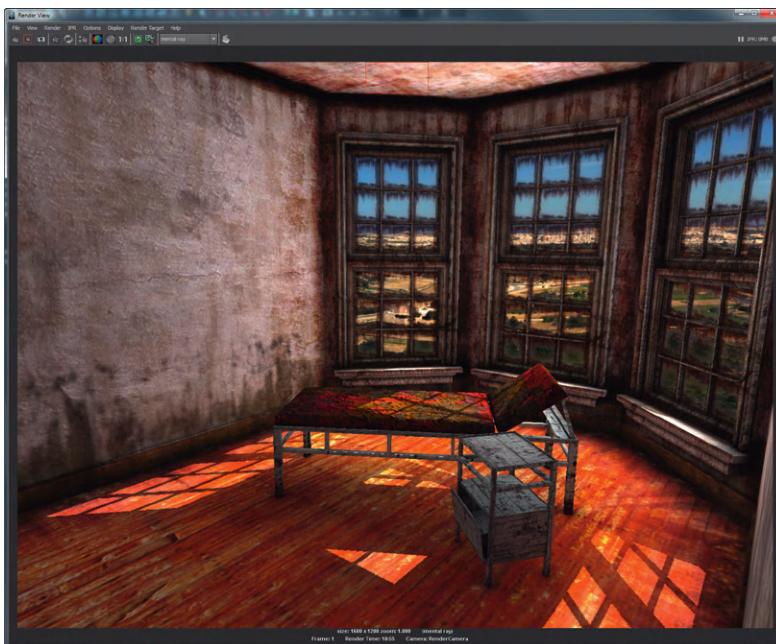

FIG 7.36 Cyc_Mat with activated ambient color channel.
Step 19: Make the cyc self-lit or rather independent of the lights. We'll do this by adjusting the Cyc_Mat. Open the Hypershade, select Cyc_Mat in the Materials tab and choose Graph > Input and Output Connections which will graph the material in the Work area. We want to use this same color map as the ambient color map. To do this, right-click the arrow at the bottom-right of the file12 (or whatever number yours is) node and choose outColor > outColor from the Hotbox that appears. Then, right-click on the arrow at the bottom-left of the Cyc_Mat node and choose ambient-Color from that Hotbox. There will appear to be little difference in the Hypershade. But a render will yield an outside well lit (Fig. 7.36).